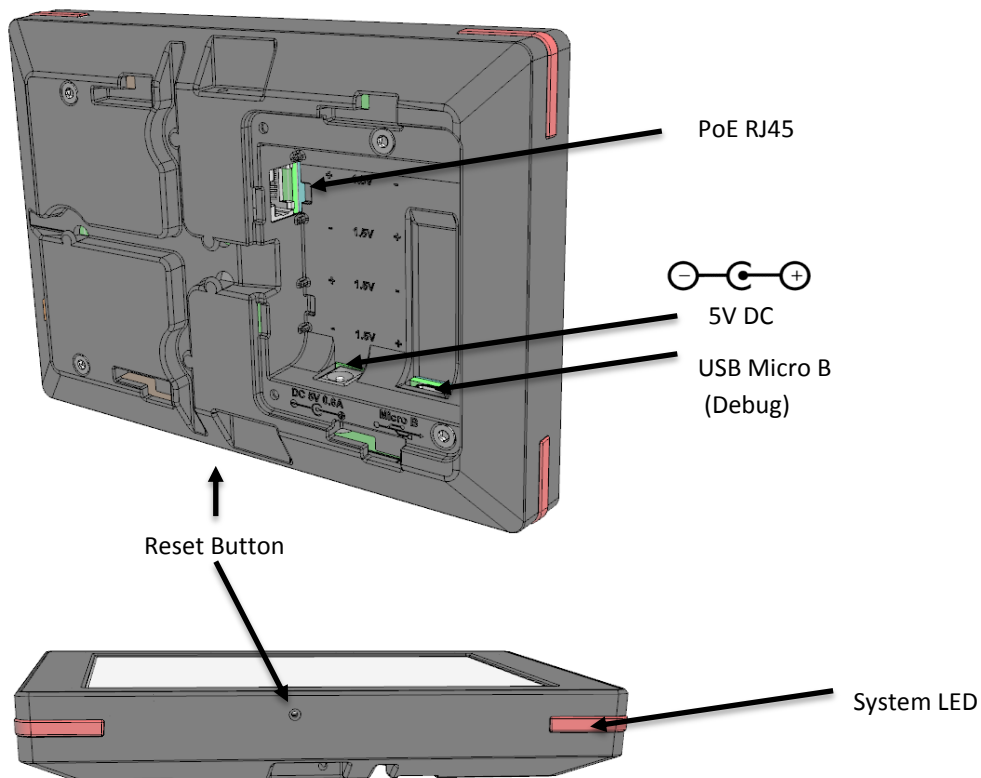
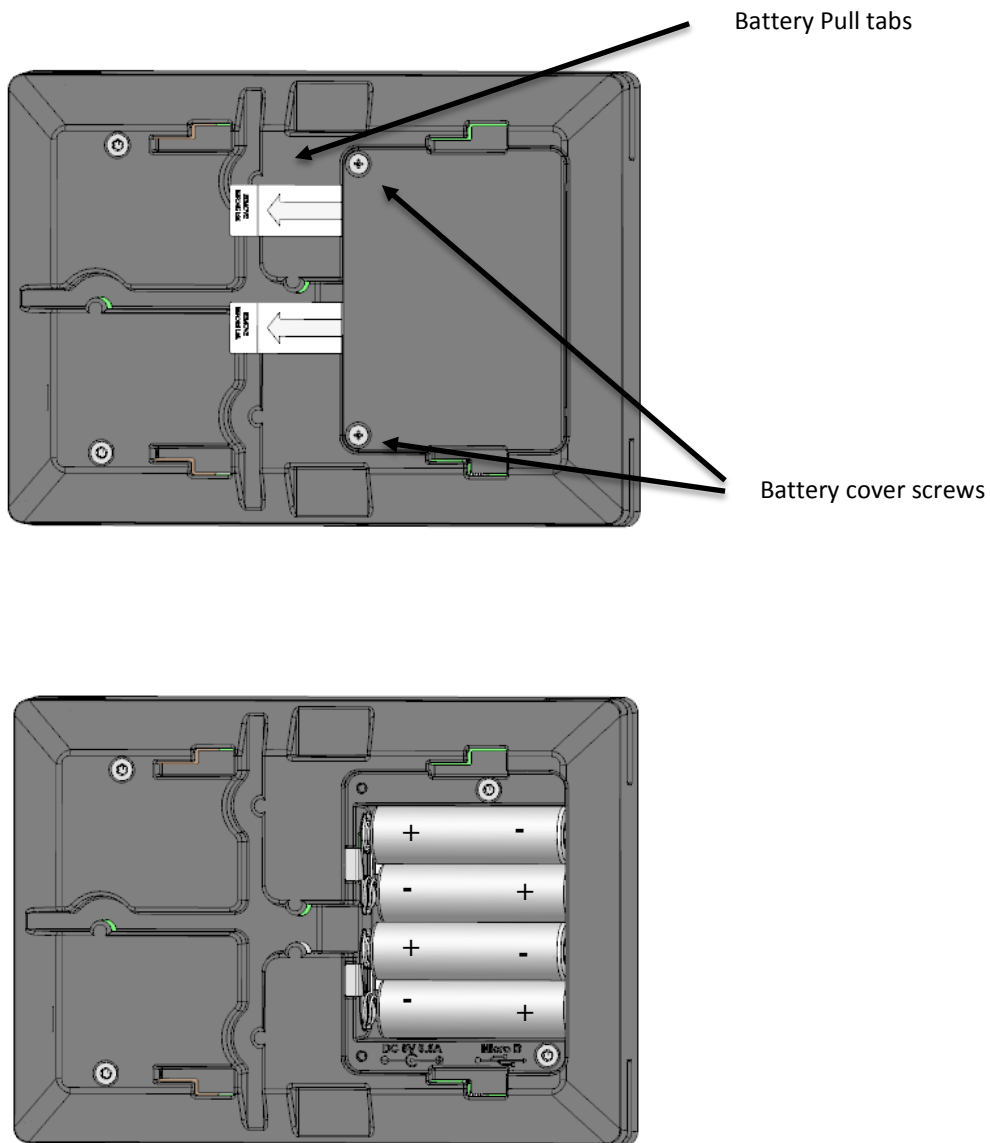

Figure 1-2: The Tablet (external) interface layout.
Figure 1-3: The Tablet (Battery) interface layout.
Figure 1-2 and Figure 1-3 illustrates the customer accessible interfaces of the Tablet. All models share the same layout; however some functions are not available in some models. The externally powered model shown in Figure 1-2 has RGB LEDs on the corners while the battery powered version shown in Figure 1-3 cannot use the LEDs.
- The reset switch of the Tablet is accessible through a pin hole in the bottom side of the Tablet as shown in Figure 1-2. See section 5.3 for LED behaviour during boot-up.
- Removed the battery cover by removing two philips screws shown in Figure 1-3